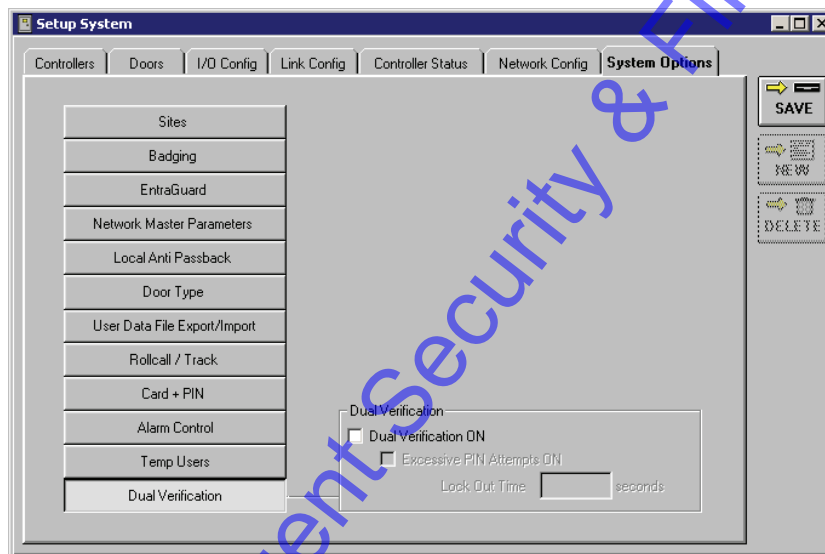

Figure 14-1: System Options Tab - Dual Verification Disabled
- Click on the  button. The System Options window will reveal the field for enabling dual verification (see Figure 14-1).